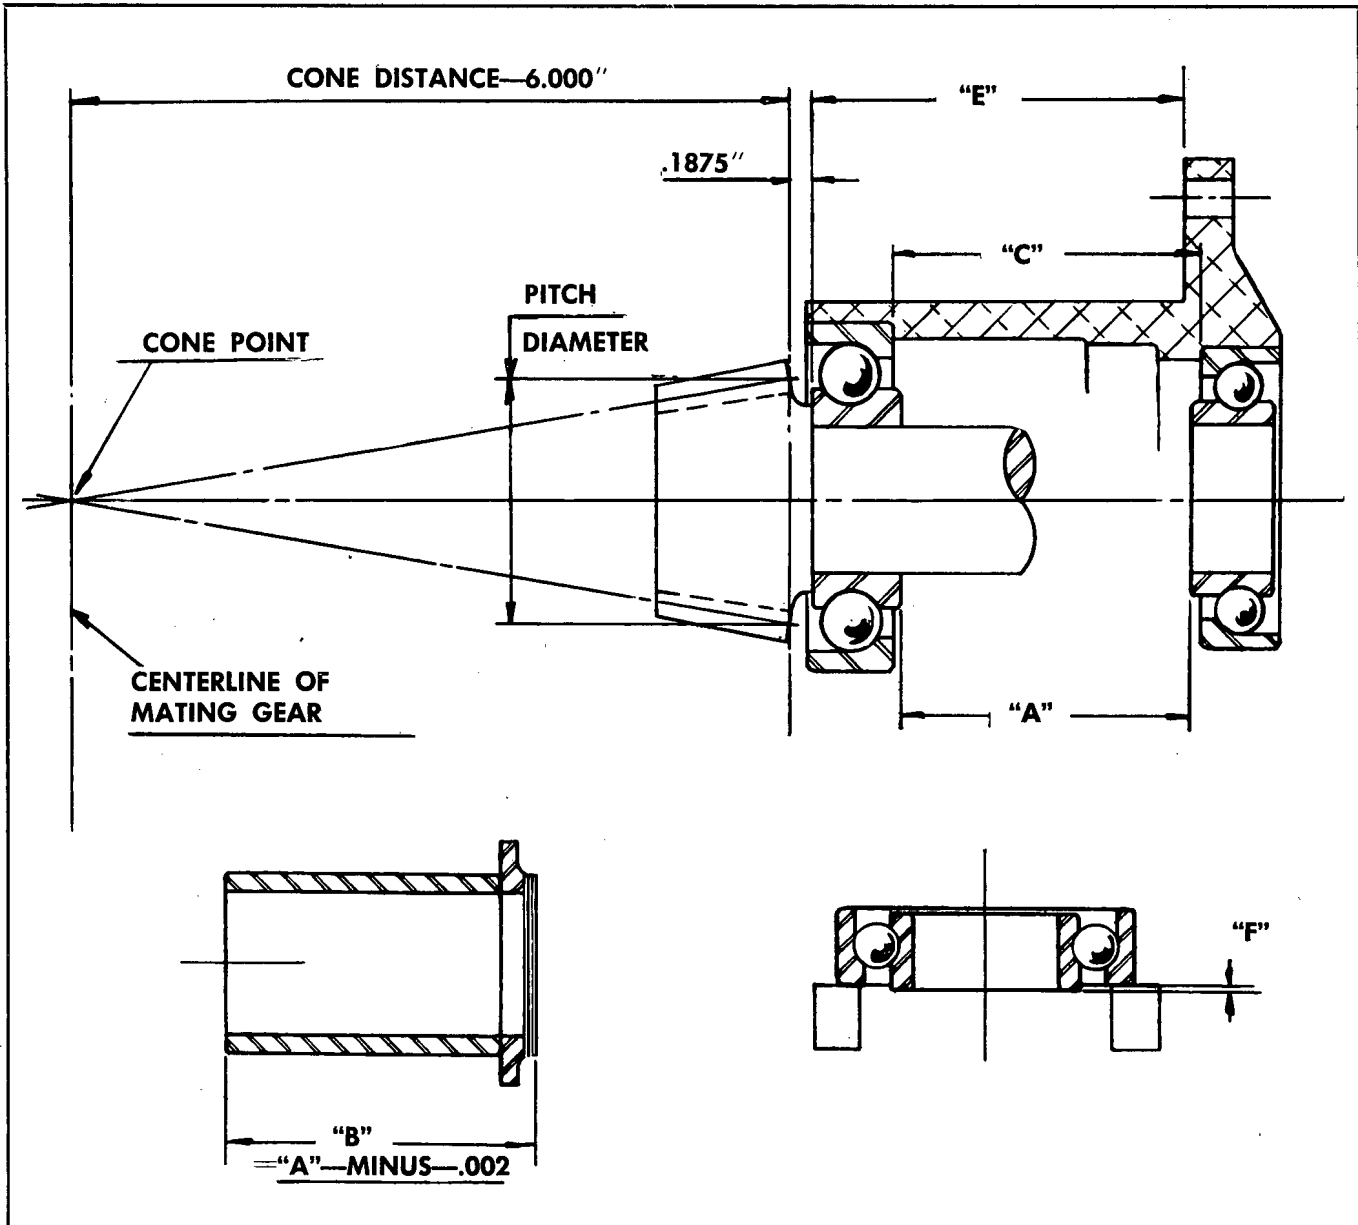

Figure 7-83. Bevel Gear Shaft Assembly Dimensions
to the above mentioned close measurements for setting the bearings, there are two others equally exacting. They are dimensions "A" and "B" shown in Fig. 7-83.
(4) With the bearings removed from the bearing cage, use precision measuring instruments and find dimension "C" shown in Fig. 7-83. Set each bearing on parallels and find dimension "F". Adding the dimension "F" found for each bearing and subtracting the total from dimension "C" gives dimension "A".
(5) Use the necessary combination of shims to make dimension "B", the length of the inner spacer plus the oil seal face plate plus the shims, equal to .002 inch less than dimension "A".
(8) By pressing or tapping with a soft hammer on the face of the outer race, insert the bearing and shaft into place in the bearing cage.
(9) From the other end of the cage, slide the remaining spacer over the shaft and down through the oil seal. Slide the oil seal, face plate and the combination of shims figured for dimension "B", shown in Fig. 7-83, over the shaft.
(10) Press the ball bearings into place with the face of the outer race tight against the shoulder of the bearing cage, being sure that the open face of the bearing is toward the threaded end of the shaft. When the outer race of the bearing is entering the bearing cage, occasional light taps around the periphery of the outer race will assist in preventing the balls from becoming imbedded in the groove.
(12) The next step in assembly is to mount the bevel pinion assembly in the main housing. Bevel gears have what is known as a cone point, an imaginary point in space where the pitch angles cross the center line of the shaft. See Fig. 7-83. When a bevel gear is in mesh with its mating gear, the cone point lies on the center line of the mating gear. The distance from the cone point to the pitch diameter is known as the cone distance. This distance on the bevel pinion is 6.000 inches.
(13) After a bevel gear is cut, it has a definite cone point. This point cannot be changed except by recutting the teeth on a gear cutting machine. No
(14) The foregoing information will clarify the reasons why the following preliminary steps are necessary when mounting the bevel pinion in the main housing. The procedure for mounting the bevel pinion assembly correctly is as follows:
(15) With precision measuring instruments, find dimension "E", see Fig. 7-83, the distance from the inner face of the bearing cage flange to the outer face of the inner race of the ball bearing on the pinion end of the shaft. To dimension "E", add 6.000 inches (the cone distance) and .1875 inches (the distance from the